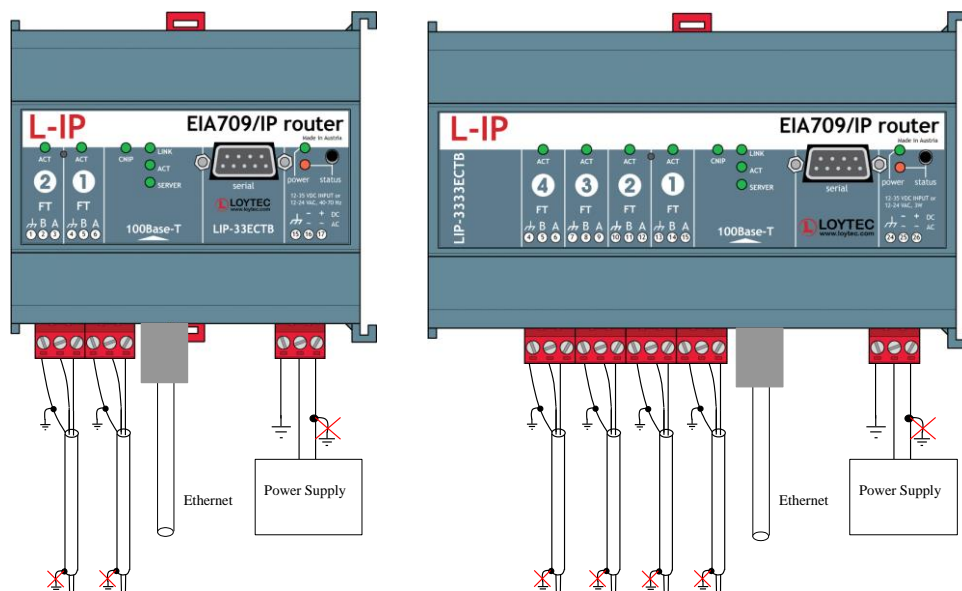

Figure 34: Connecting the Earth Ground to the L-IP series “B”.
**Important:** *When using shielded network cables, only one side of the cable should be connected to earth ground. Thus, the shield must be connected to earth ground either at the L-IP terminals or somewhere else in the network (see Figure 34)!*